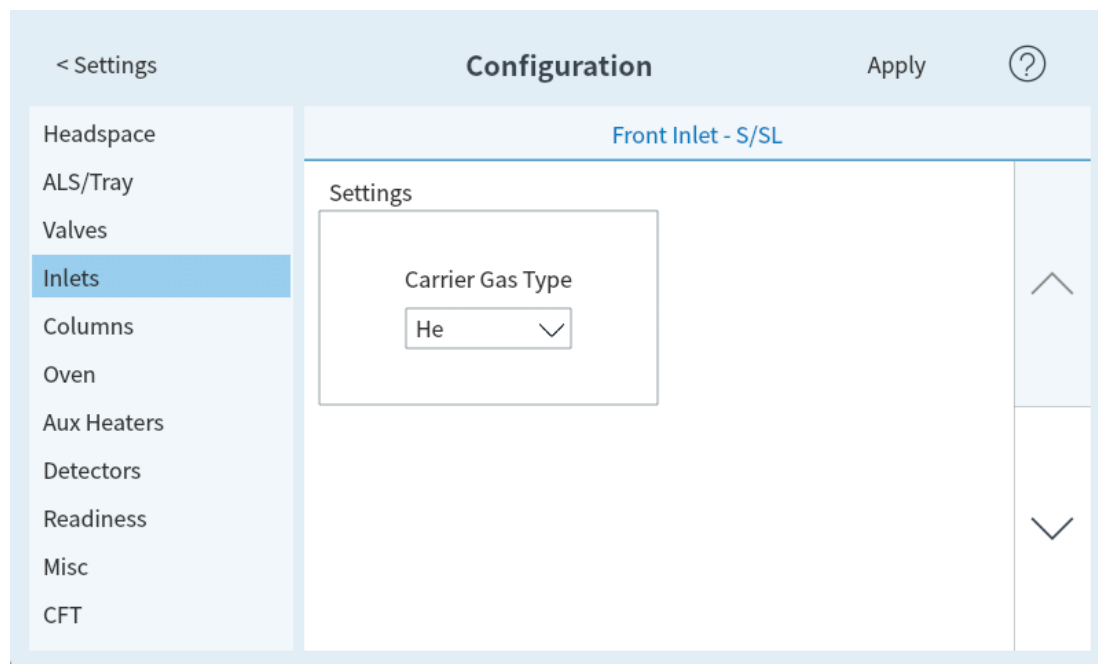

Figure 63. Inlets page
1. Select **Settings**. The Settings view appears. See Figure 63.
1. Select **Settings > Configuration > Inlets**. See Figure 63.